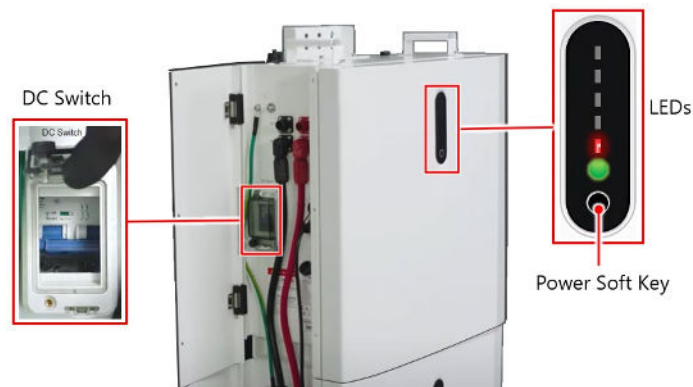

Figure 3 SolarEdge Home Battery 48V - Controls
7. Turn off the DC Switch on the battery (see Figure 3).
8. Press the Power soft key for 3 to 6 seconds until the red LED of the battery turns off (see Figure 3).
2. Turn on the DC Switch on the battery (see Figure 3).
3. Press the Power Soft Key on the battery for 3 to 6 seconds till all LEDs turn on (see Figure 3).
4. Turn the switch of the Inverter to the "I" position and wait until a green LED start blinking (see Figure 3).
- Turn off the DC Switch on the battery (see Figure 3).
- c. Press the Power soft key for 3 to 6 seconds until the red LED of the battery turns off (see Figure 3).
- f. Turn the DC Switch of the battery to "I" to turn on the battery (see Figure 3).
- g. Press the Power soft key to turn on the battery (see Figure 3).